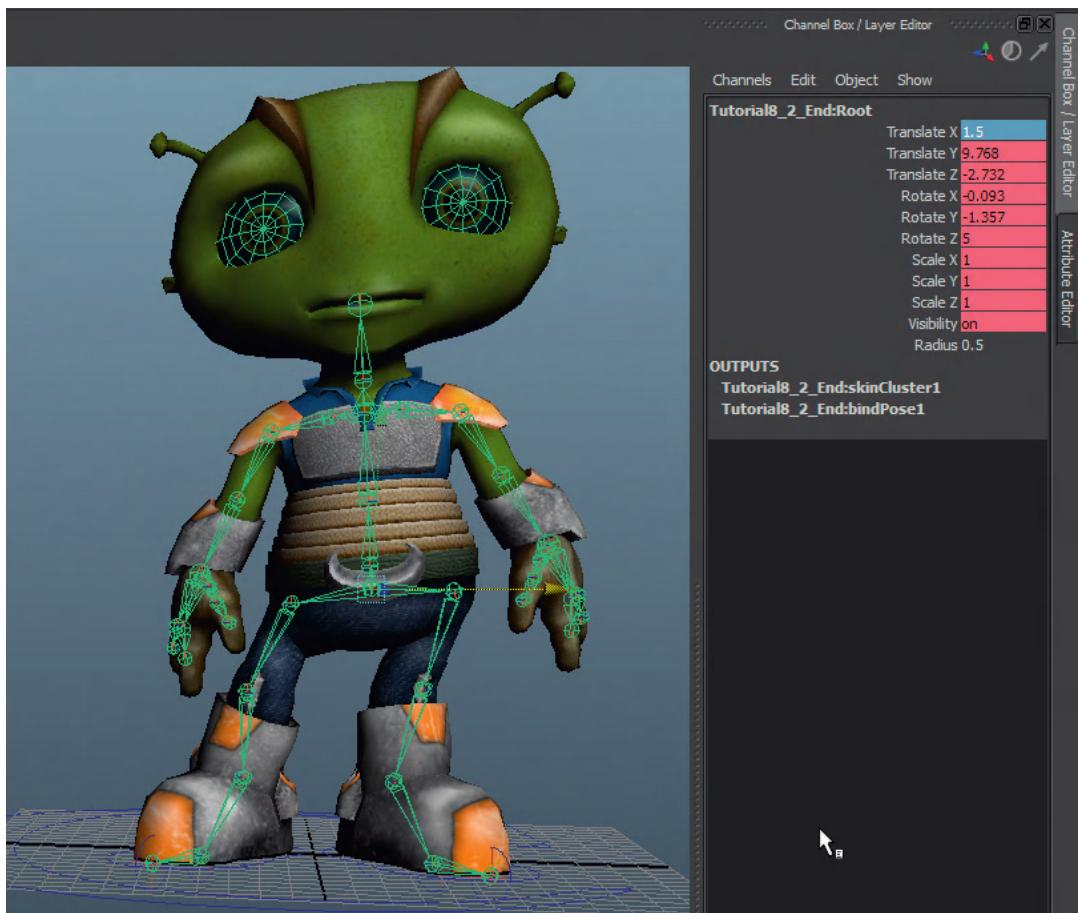

FIG 9.29 Setting keys to show weight in hips.
Step 8: Set keys to show weight on passing poses. When the weight is all on one foot (as it is in the passing poses), the hips will rotate to show this. Additionally, the hips will slide over the top of the leg that is bearing the weight. Move the Current Time Marker to frame 6 (when the left foot is on the ground and the right foot is passing). Select the Root and rotate it around its Z by 5 degrees (this can be done visually or in the Channel Box) and move the joint over in X so that it is more over the left foot (for my scale this was 1.5 units [Fig. 9.29]).